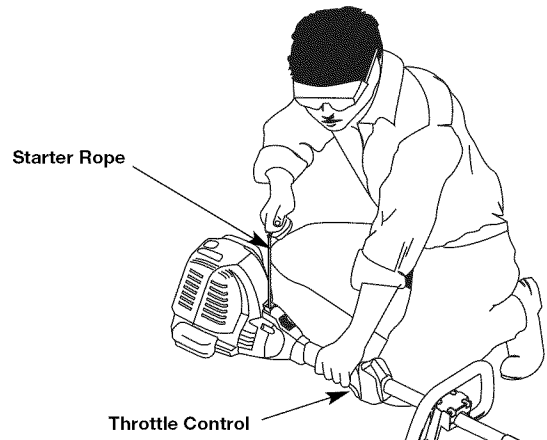

Fig. 7
WARNING: Avoid accidental starting. Make sure you are in the starting position when pulling the starter rope (Fig. 7). To avoid serious injury, the operator and unit must be in a stable position while starting.
5. Crouch in the starting position (Fig. 7). **SQUEEZE and HOLD the throttle control for ALL further steps.** Pull the starter rope in a controlled motion **5** times.